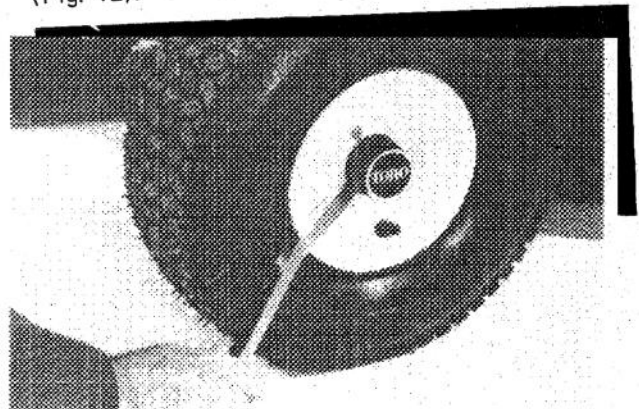

Figure 42
3. Use a pry bar to lever the hub cap off the axle (Fig. 42).